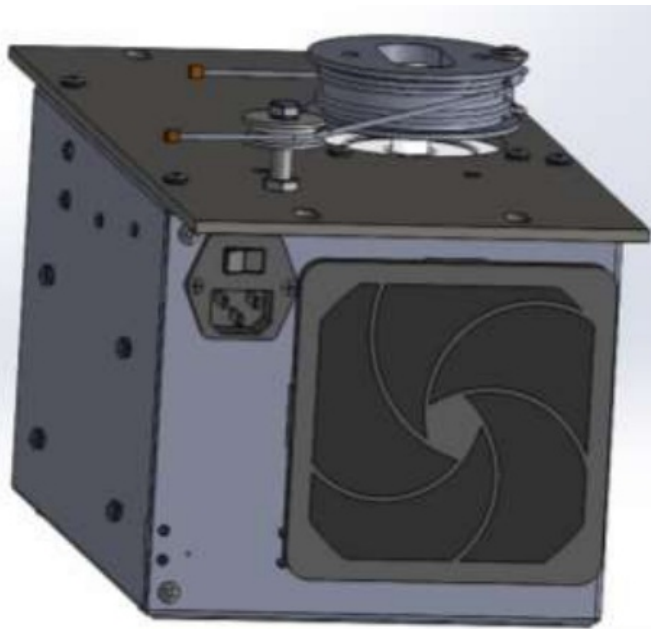

Fig. 2b – E-Lift Cable Routing (rear view)
- Refer to Figures 2b & 2c for locations of plug receptacles.
- Turn on the E-Lift using the power switch, located next to the power cord. Refer to Figure 2b for power switch location.